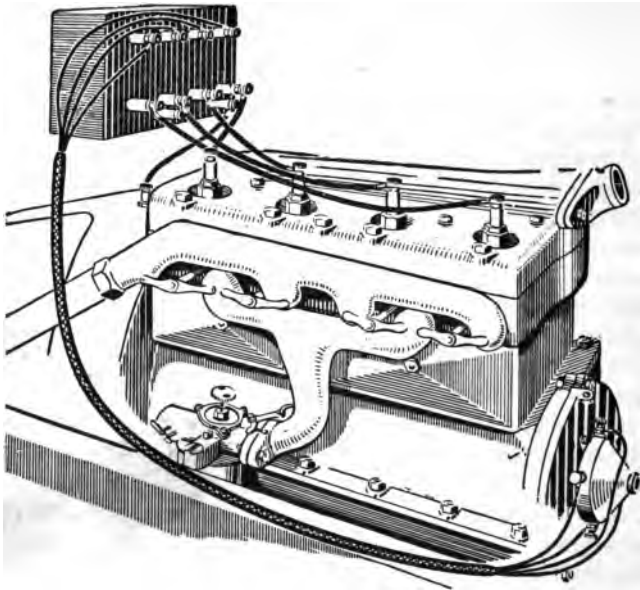

Figure 17.—Ignition Wiring of Older Models.
*Current Paths.*—All of the external wiring is shown in Figure 17. Starting from the terminal of the magneto the primary current passes to the switch located on the coil box and from this switch to the primary